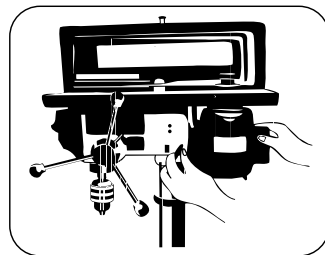

FIGURE 7.14
- Open the Belt Guard Cover **2** and loosen the belt tensioner found on the outside (Figure 7.14).
- When the desired tension is reached, tighten the belt tensioner (Figure 7.14).